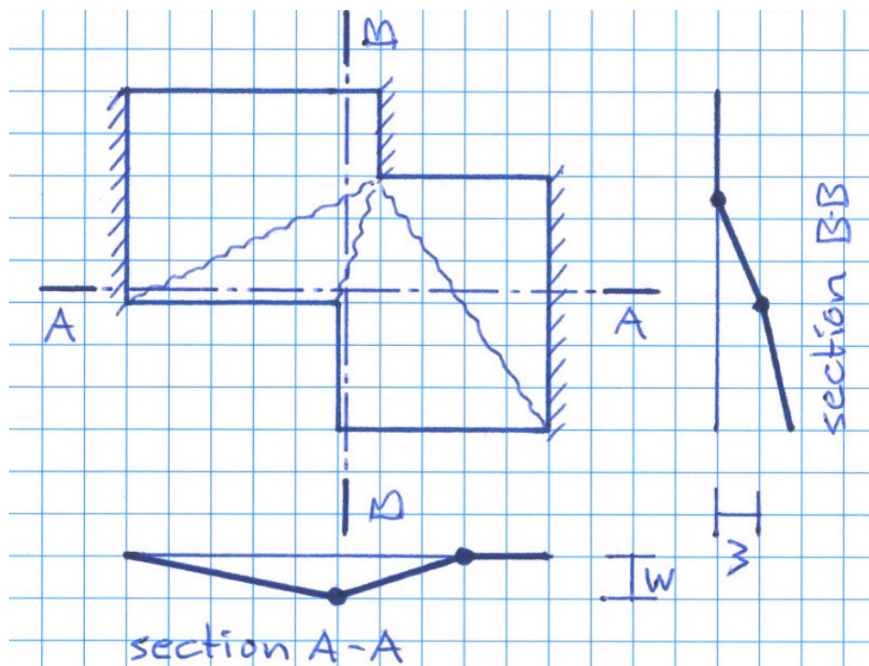

Figure 5. Mechanism of Problem 2b
- b** Consider the yield line pattern of Figure 5. Determine an upper-bound for p expressed in m_p and a (1.5 point).